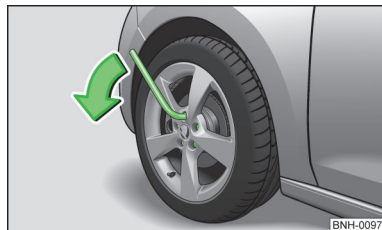

Fig. 90
- › To **loosen the screws**, grasp the key end and rotate the screw about **one** turn in the direction of the arrow » fig. 90.
- › To **tighten the screws**, grasp the key end and turn the screw about against the direction of the arrow » fig. 90, until it is tight.